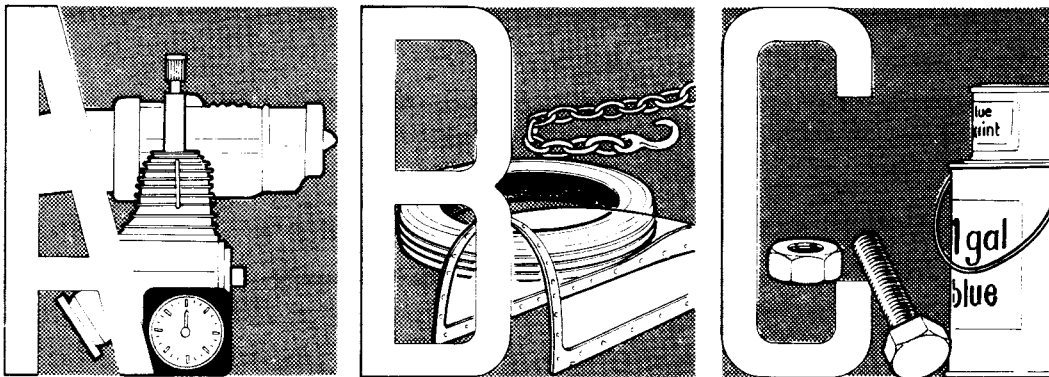

Fig 23.2 Items and their classes
7. **How items are classified.** For the purposes of supply and accounting, all items in the RAF are classified as being Class A, Class B or Class C items. This classification depends upon the degree to which an item is worthy and capable of repair and the degree of accounting applied to the item when in use. Some examples of the sort of items which would fall into each class are given in Fig 23.2. The approved definitions of Class A, B and C items are paraphrased in para 14 Chap 22. Further details are given below: